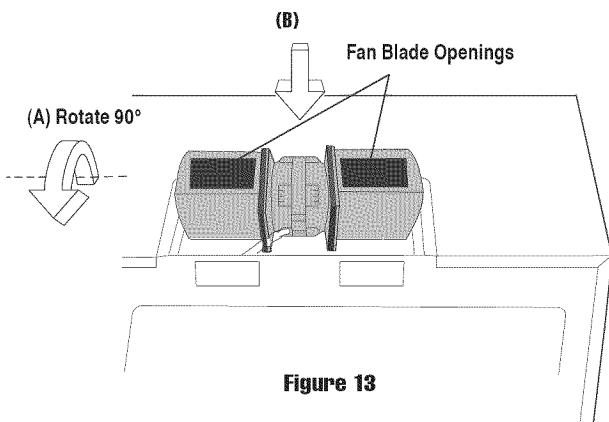

Figure 13
3. Rotate the Hood Fan Unit 90° so that the Fan Blade Openings are facing the top of the oven. See Figure 13 (A) on page 6. Replace Hood Fan Unit into the oven. Be careful not to pinch the lead wire between the inner bracket and the Hood Fan Unit. Put the lead wire into Wire Box. See Figure 13 (B) on page 6.